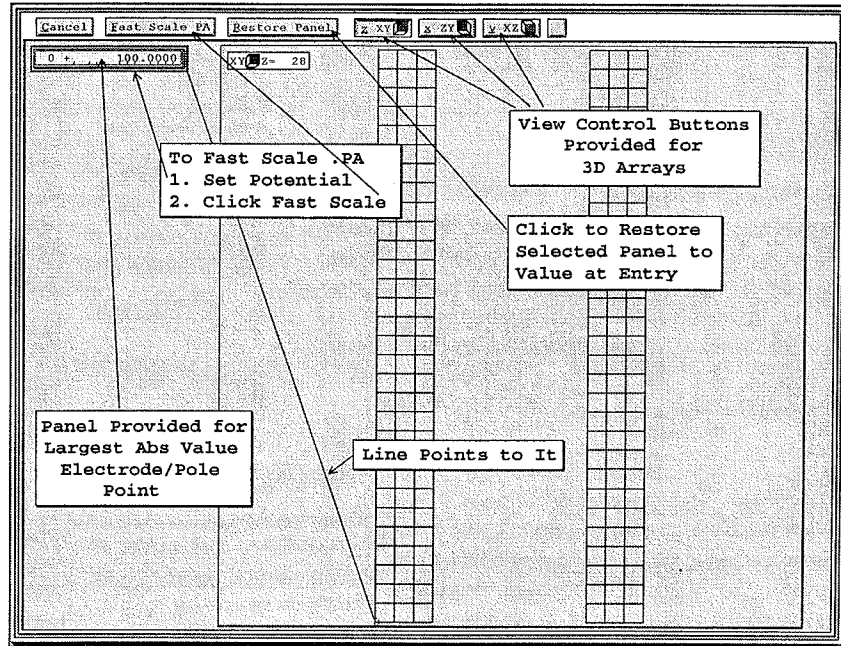

Figure 6-6 Fast scaling control screen for a .PA array
**Fast Adjust** then shows a picture of the array and creates an adjustable panel with the point's current potential (*Figure 6-6*). A red line connects the panel and the point on the view so you can see which point serves as the reference. The **Restore Panel** button is used to restore the potential on the panel to the value it had when **Fast Adjust** was entered. Three view control buttons are provided for 3D arrays (*to assist in seeing point's location*).